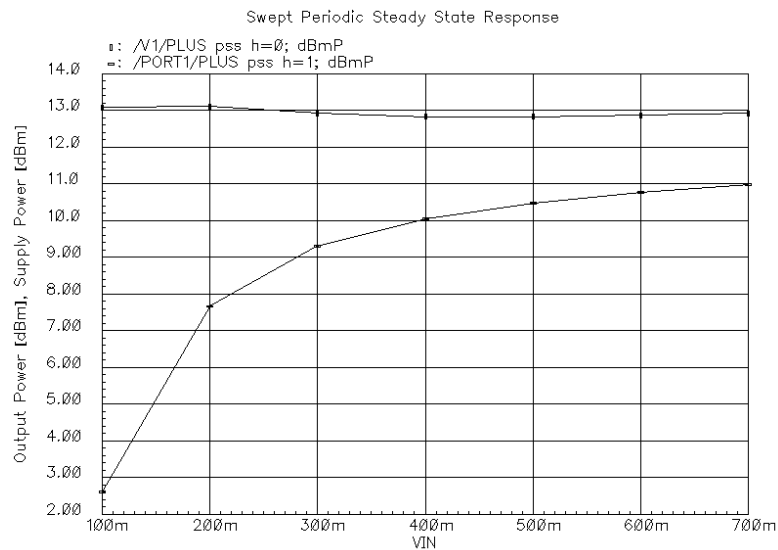

Figure 3. SPSS Results: Output power and Supply power Vs. VIN
The efficiency and operating class of the PA are strongly dependent on the DC bias and the input amplitude. SPSS Analysis can be employed to analyze the parametric behavior of the PA. Figure 3 and 4 show the simulation results. Notice that, as the input amplitude increases, the supply power keeps constant while the output power grows. This is a characteristic of class A amplifiers (why?).
- 3.2 Obtain transient plots (like the ones in section 2.1) and parametric plots (like figure 3 and 4) for $V_{DC}=0.5V, 0.6V, 0.7V, 0.8V$. What is the maximum achievable output power and drain efficiency in each case? What is the power and efficiency obtain at $V_{IN}=300mV$ in each case? From your observations, what is the operating class of the PA for the different bias conditions?